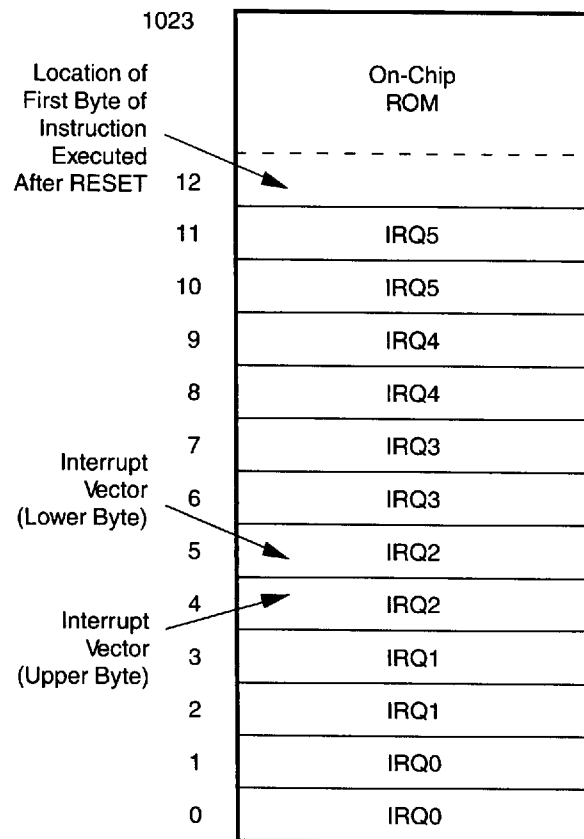

Figure 10. Program Memory Map
**Program Memory.** The Z87100 can address up to 1 Kbytes of internal program memory (Figure 10). The first 12 bytes of program memory are reserved for the interrupt vectors. These locations contain six 16-bit vectors that correspond to the six available interrupts. Byte 13 to byte 1023 consists of on-chip, mask-programmed ROM.